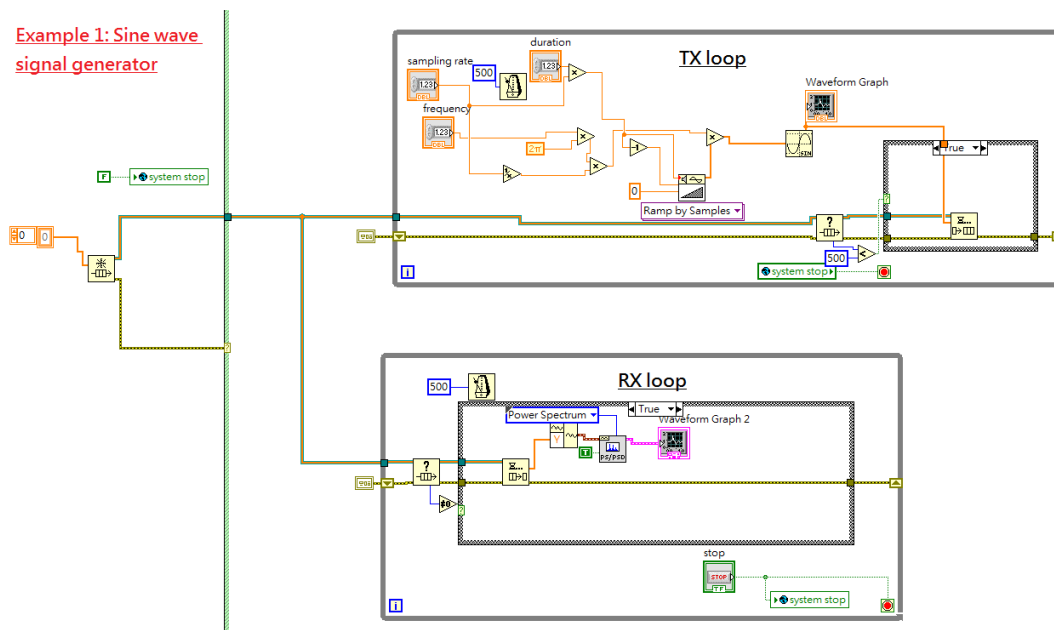

Figure 3: block diagram for example 1
**Example: Sine-wave signal generator** Fig. 3 is the block diagram of the signal generator. This program is also included in the **LabVIEW** project file. The following steps explain how to build this example: